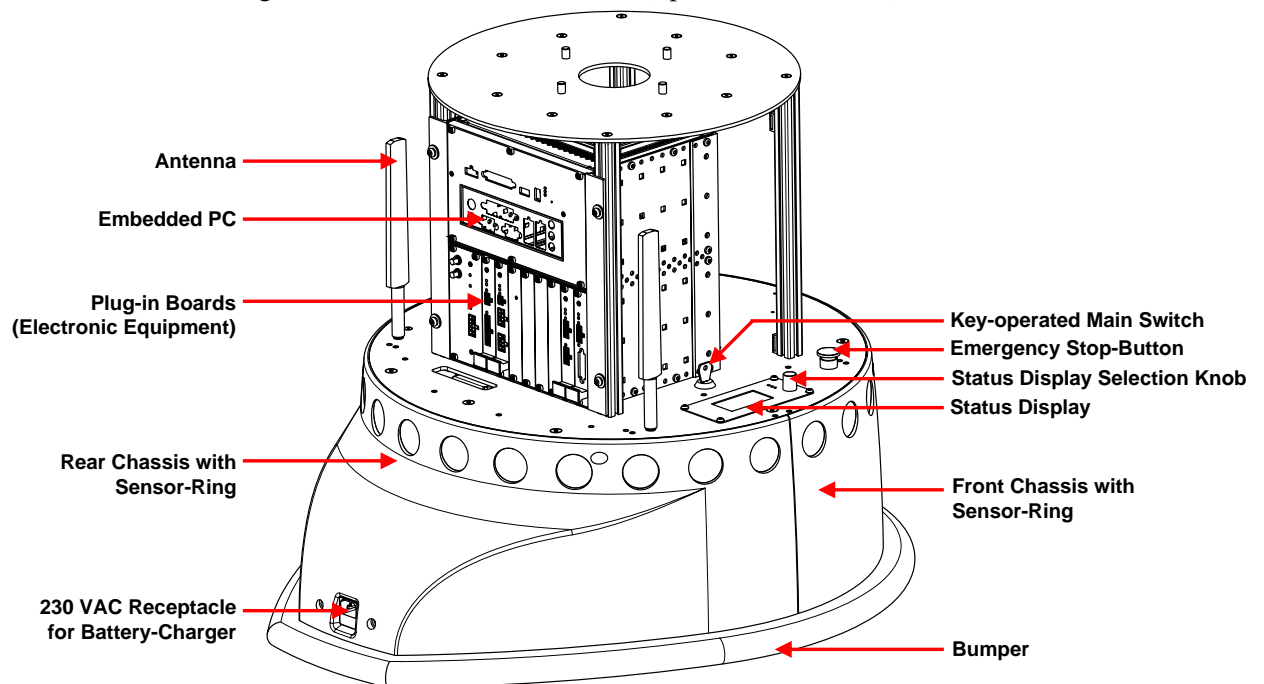

Figure 2.3: Rearview of SCITOS G5.
- Turn the key-operated *Main Switch* (Figure 2.3) clockwise: The *Status Display* illuminates. (If it does not, the batteries could be totally discharged and/or there might be a defect in the power supply or the integrated battery charger.)